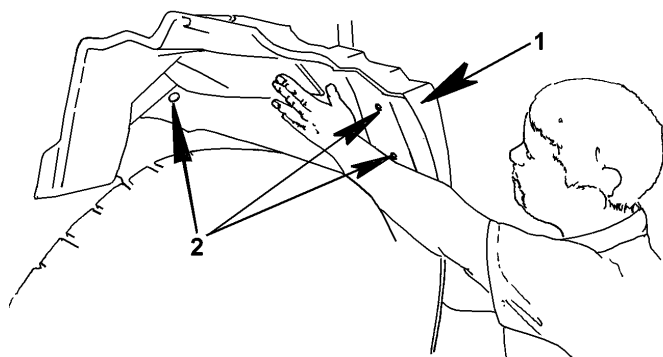

Figure 39 Fender Extension Removal
4. Remove the fender extension (Figure 39, Item 1).